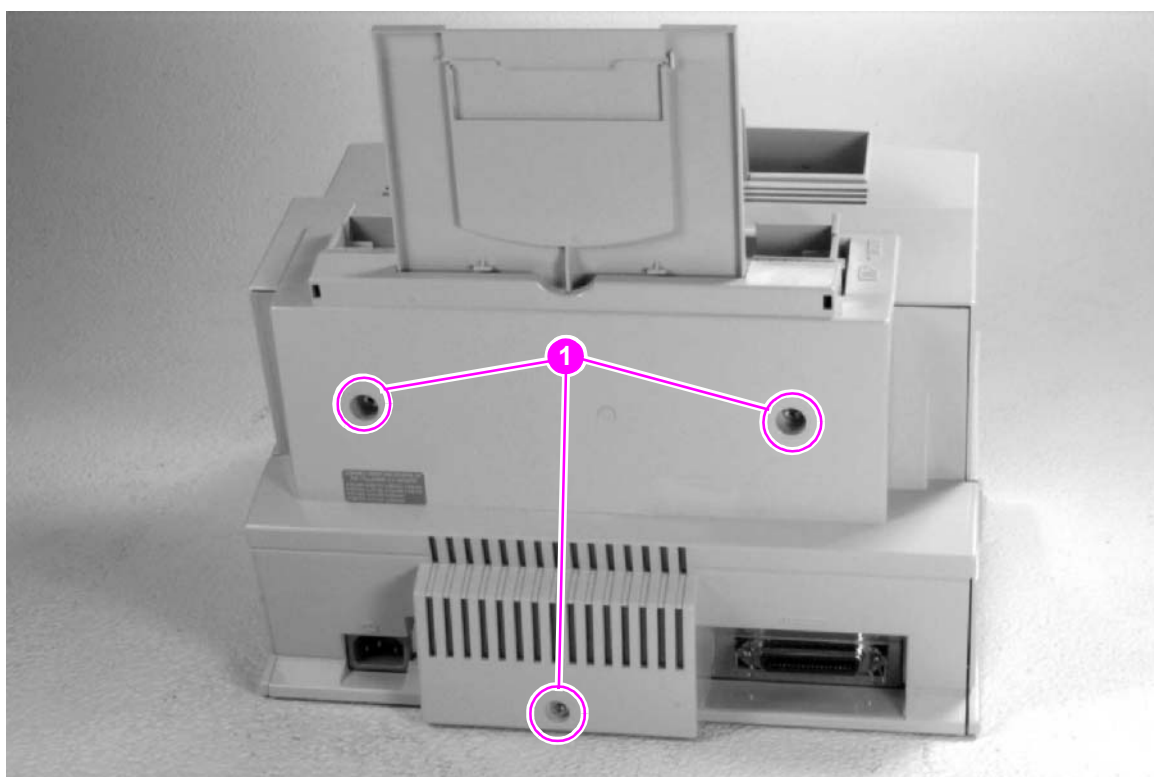

Figure 6-2 Back Cover removal (1 of 2)
- 4 Remove the (3) screws (Figure 6-2, callout 1).